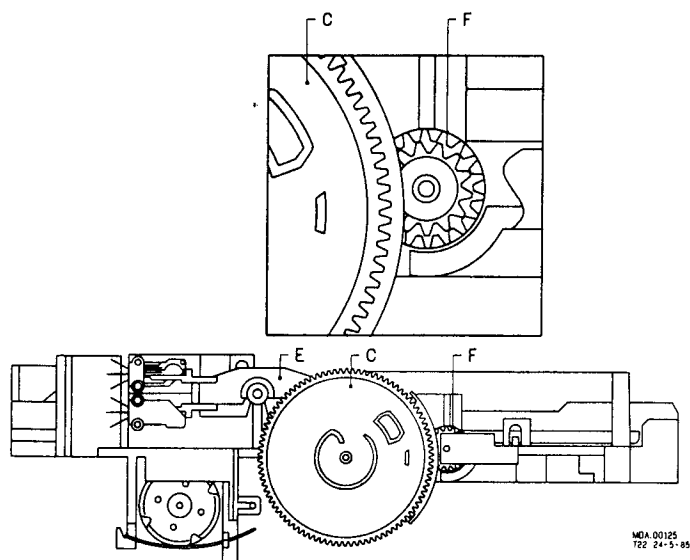

Fig. 5
- Ensure that the aperture in gearwheel F is vertical (see Fig. 4) and apply cog wheel C in the way described in Fig. 5.
Use 13th order filter 4822 395 30204 (see Fig. 5) to measure: